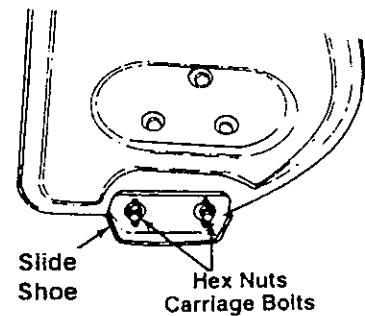

FIGURE 16
- The space between the shave plate and the ground can be adjusted. For close snow removal, place slide shoes in the low position. Use middle or high position when area to be cleared is uneven. See figure 16.